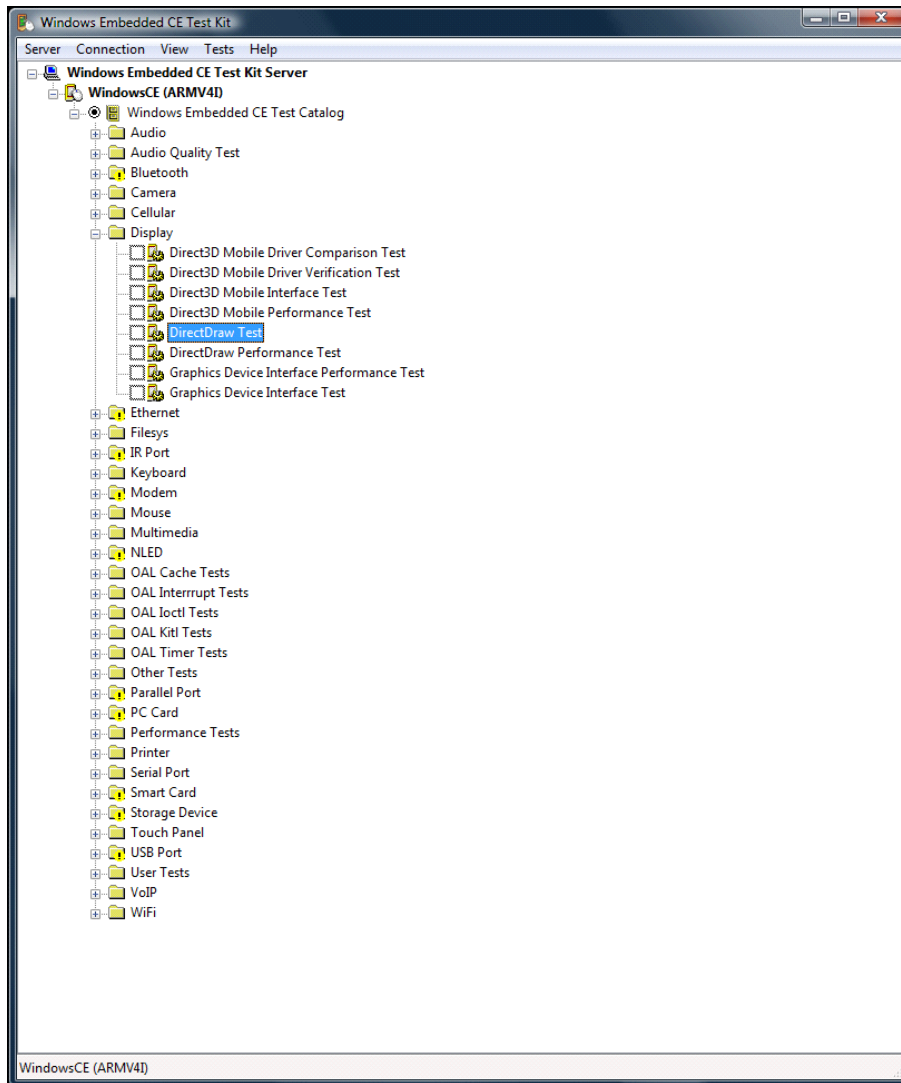

Figure 9. DirectDraw Test Option under Display Folder
4. Within the Windows CE Test tree, there is a folder named Display, and inside this is the DirectDraw Test, as shown in Figure 9.
Figure 9 shows the DirectDraw Test option under the Display folder.